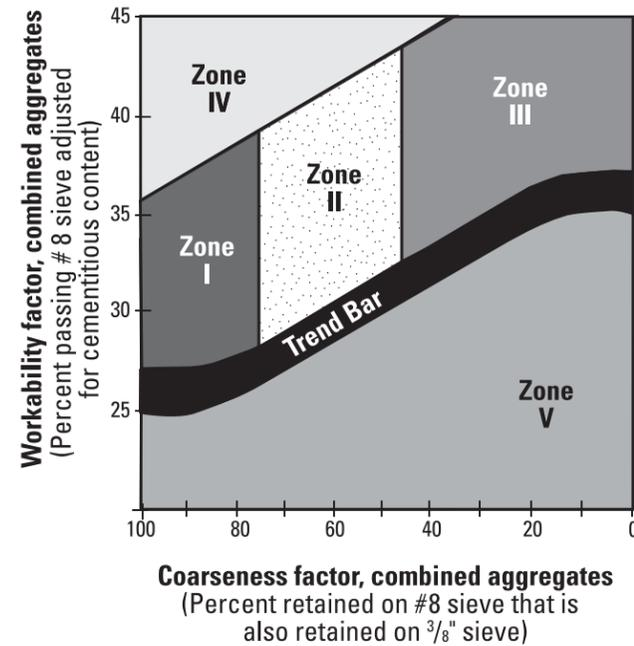

Figure 1. Shilstone's Coarseness Factor Chart helps mix designers balance aggregate coarseness with workability. Optimum mixtures fall within zones II and III.
- The Coarseness Factor Chart (figure 1) provides an overview of a mixture's workability based on aggregate gradation.